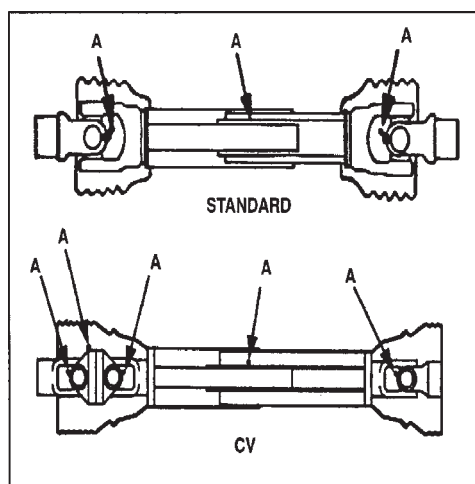
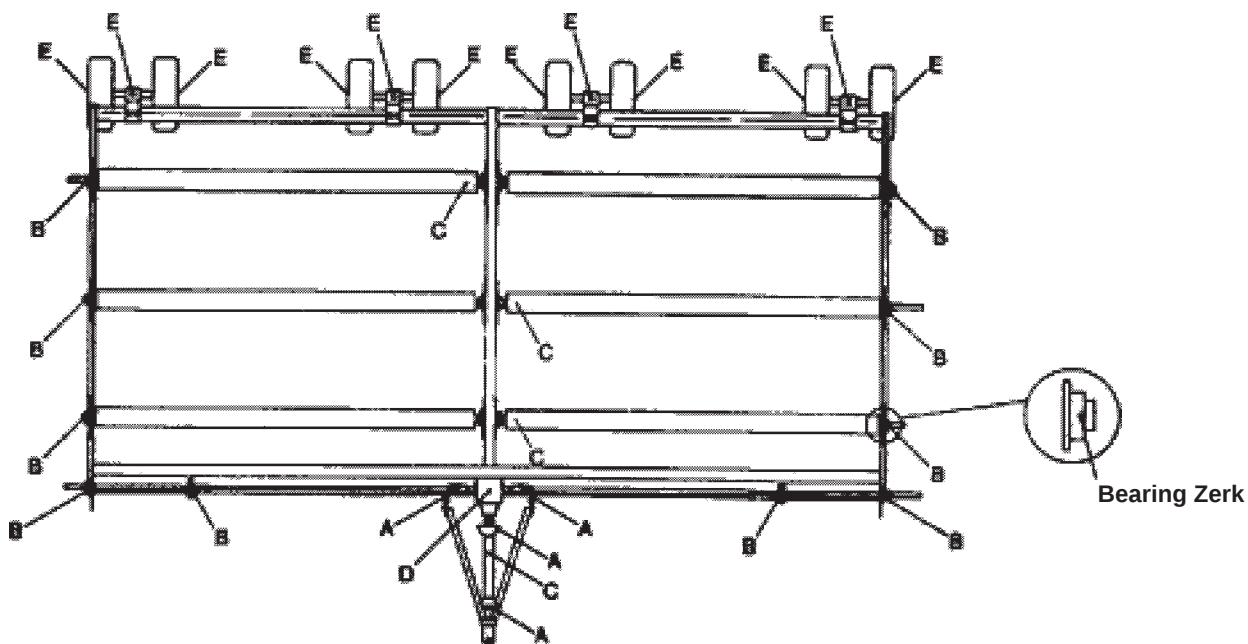

Figure 22 Driveline
Figure 24 Lubrication Diagram
The period recommended is based on normal operating conditions. Severe or unusual conditions may require more frequent lubrication or oil changes. Refer to Figure 24 for details.
1. Lubricate PTO driveline, position A, Figure 22 and Figure 24.